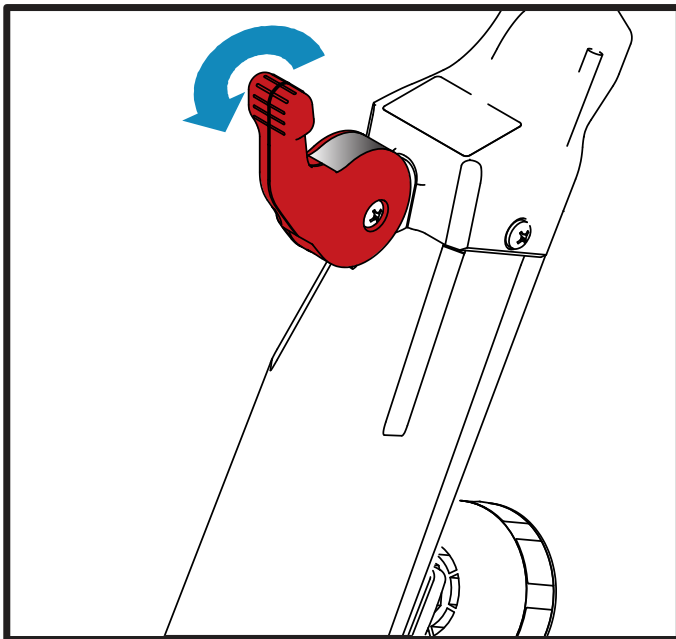

Figure 2. Shifter Lever Position
1. Place the shifter lever in the downward position, refer to Figure 2.